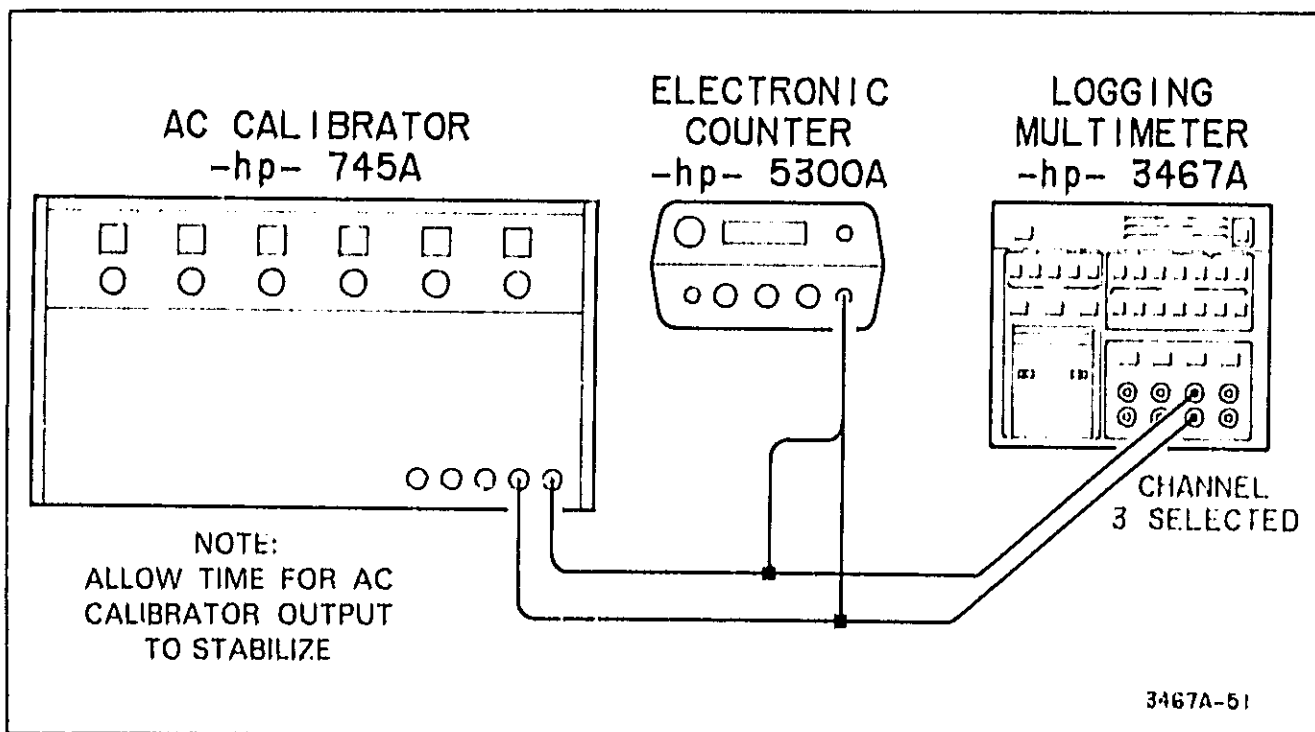

Figure 5-5. AC Normal-Mode Rejection Test.
- a. Connect the AC calibrator to the electronic counter as shown in Figure 5-5. Do not connect the Logging Multimeter at this time.
- f. Remove the short and connect the AC Calibrator normal mode to Channel 3. The test set-up is shown in Figure 5-5.